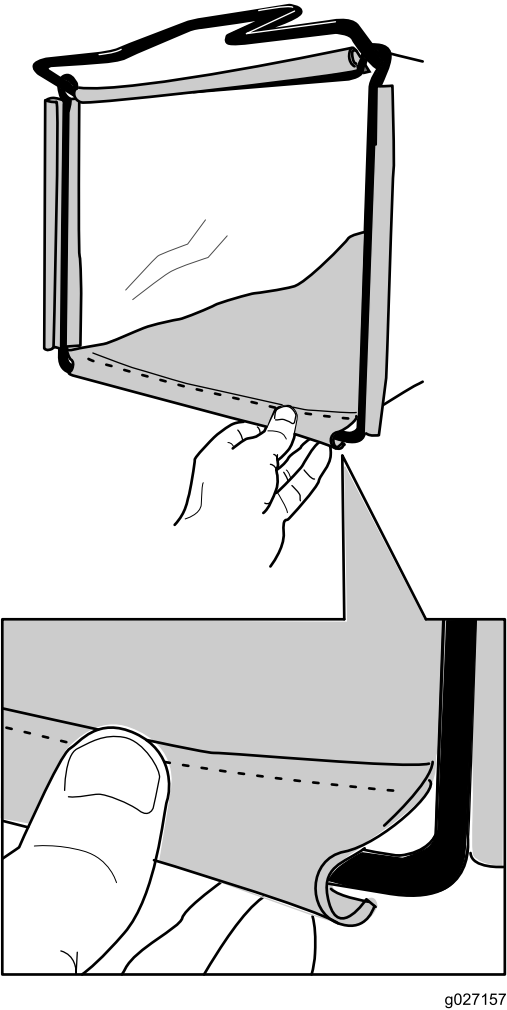

Figure 13
2. Hook the bottom channel of the bag onto the bottom of the frame (Figure 13).
3. Hook the top and side channels of the bag onto the top and sides of the frame, respectively (Figure 13).